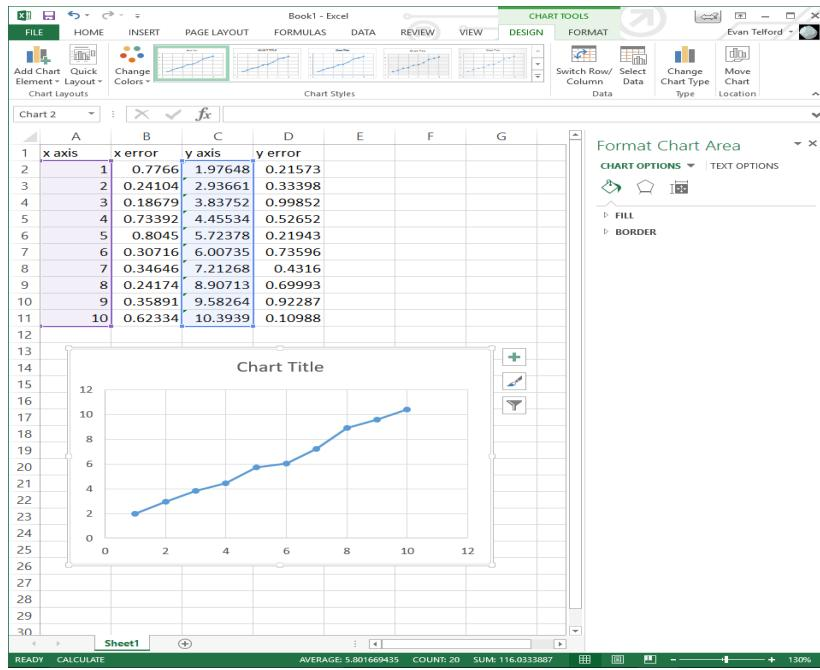

Figure 1: Selecting x and y data and creating a lined scatter plot in excel.
3. Choose the subheading "insert", then "Scatter", then "Scatter with straight lines and markers". Now your x and y data should be plotted without error bars (see figure 1).